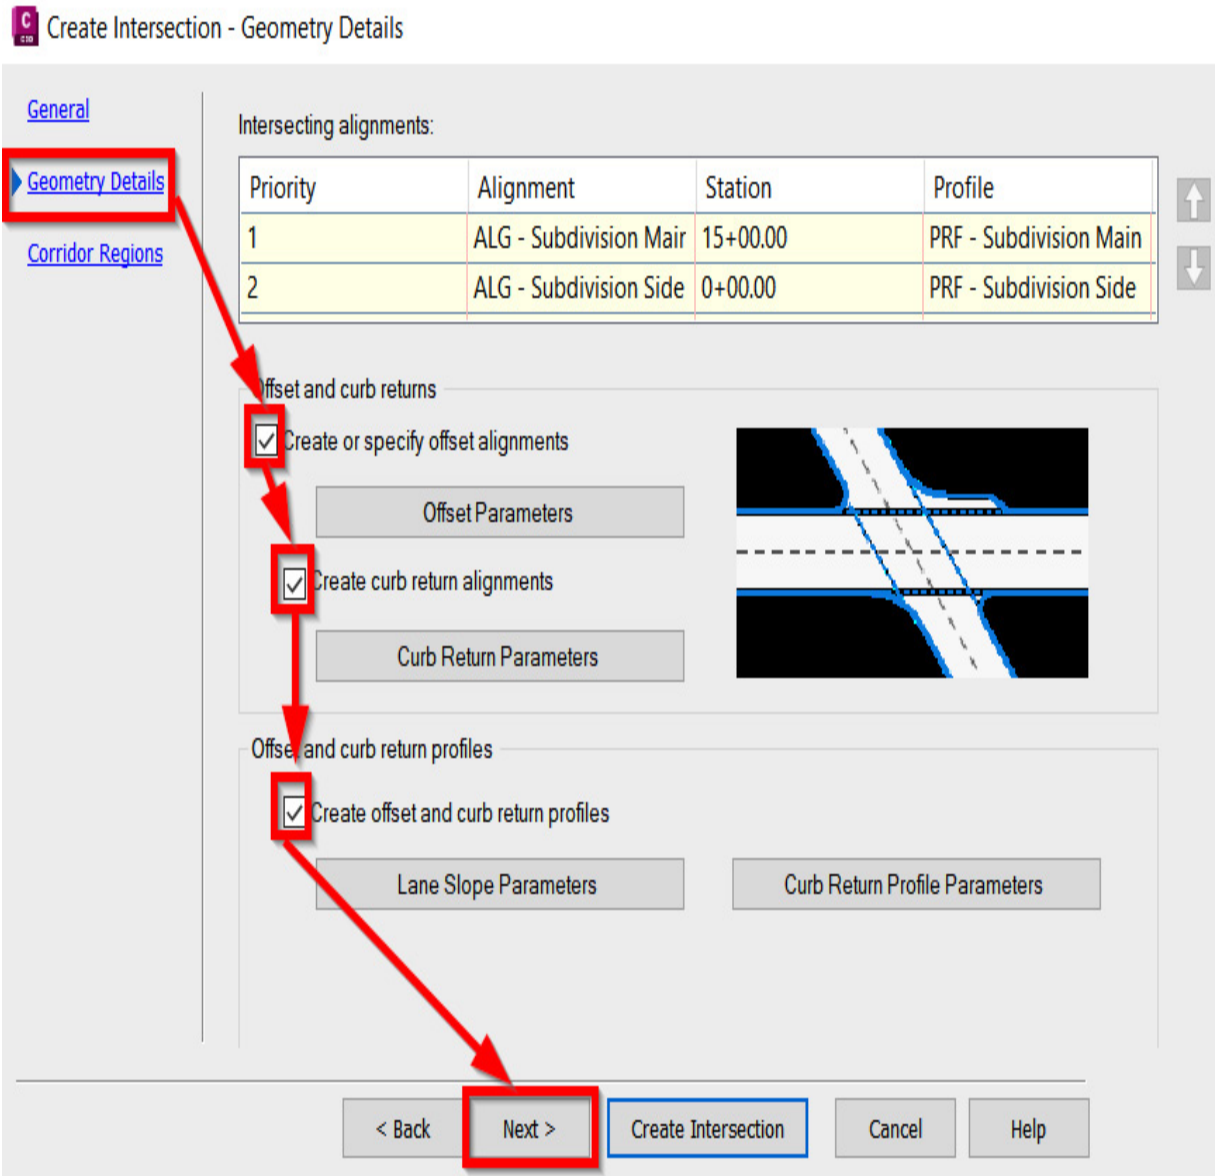

Figure 10.32 – Create Intersection | Geometry Details
4. Next, we must fill in the fields in the **Geometry Details** tab as follows (also displayed in *Figure 10.32*) and select the **Next** button at the bottom of the **Create Intersection** dialog box: